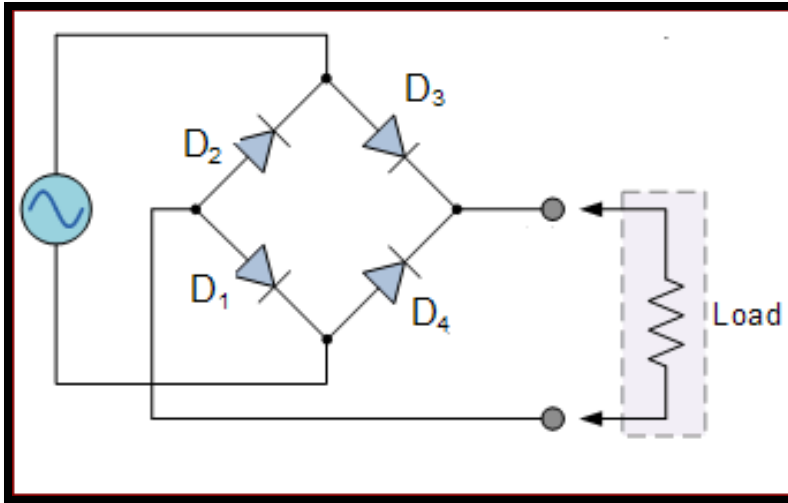

Fig. 1: Full wave bridge rectifier circuit.
Fig. 1 shows the circuit of diode bridge rectifier. The circuit uses four diodes D1, D2, D3 and D4 connected in the form of bridge.
- 1- Configure the Full Wave bridge Rectifier circuit as shown in Figure 1 and apply an AC voltage of $V_{pp} = 6V$.